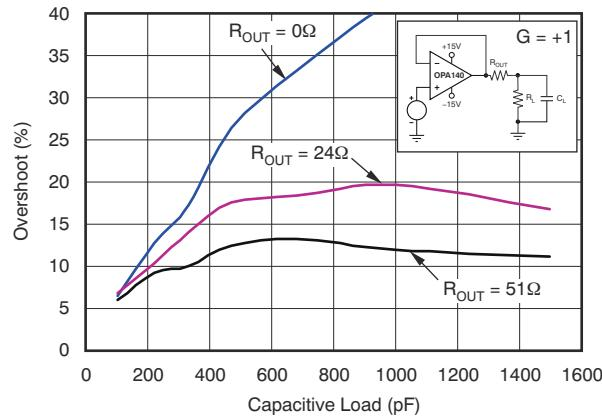
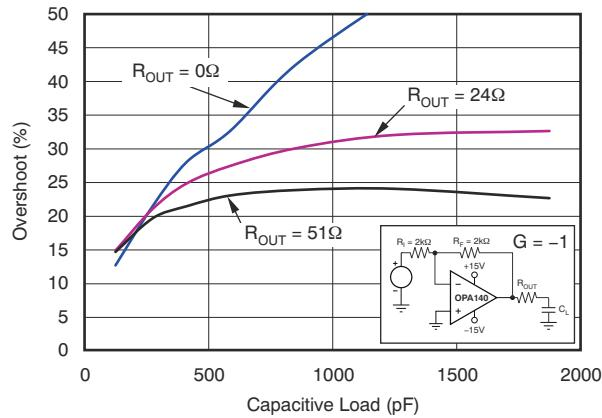

Figure 6-19. Small-Signal Overshoot vs Capacitive Load
Figure 6-20. Small-Signal Overshoot vs Capacitive Load
Small-Signal Overshoot vs Capacitive Load ( $G = 1$ )	Figure 6-19
Small-Signal Overshoot vs Capacitive Load ( $G = -1$ )	Figure 6-20
**Figure 6-19** and **Figure 6-20** illustrate graphs of *Small-Signal Overshoot vs Capacitive Load* for several values of  $R_{OUT}$ . Also, see the *Feedback Plots Define Op Amp AC Performance Application Bulletin*, available for download from [www.ti.com](http://www.ti.com), for details of analysis techniques and application circuits.